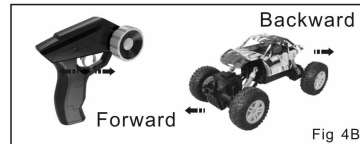

Fig 4B
1. Forward/Backward: To push the Trigger back/ahead, the truck would go forward/backward. (Fig 4B)